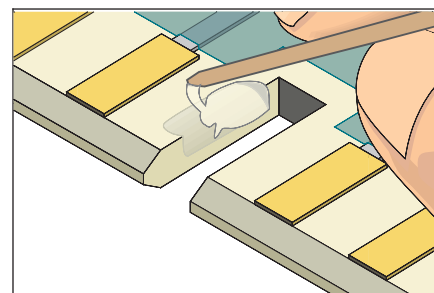

Figure 2 Apply epoxy to the edges of the key slot.
6. Apply a small amount of epoxy to the edges of the slot. A mixing stick sharpened at the end may be used to apply the epoxy. (See Figure 2.)